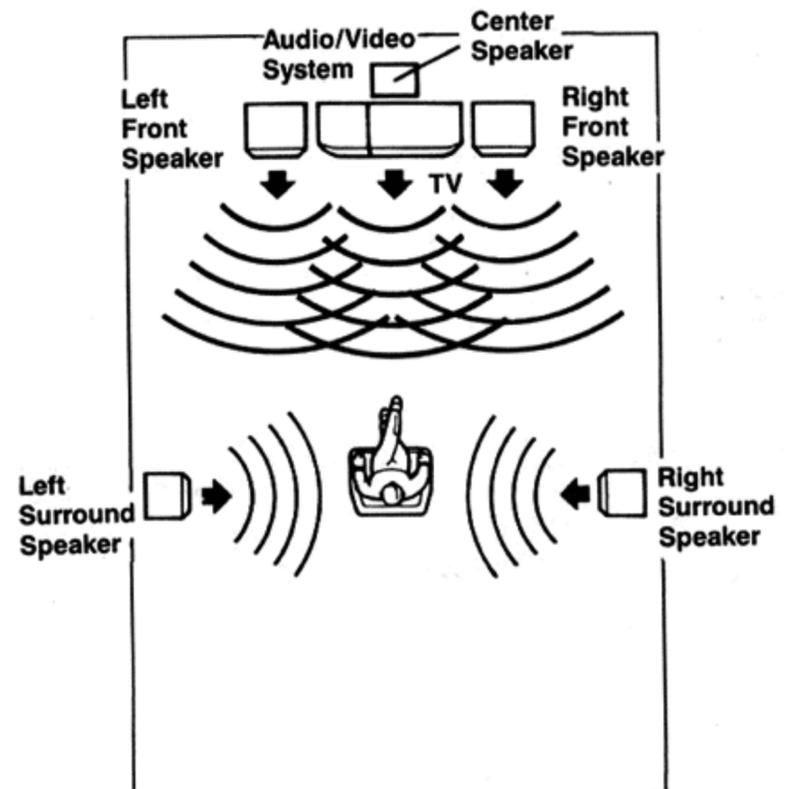

Figure 10
|                                 | ⑲ Display Panel (Figure 10)  |